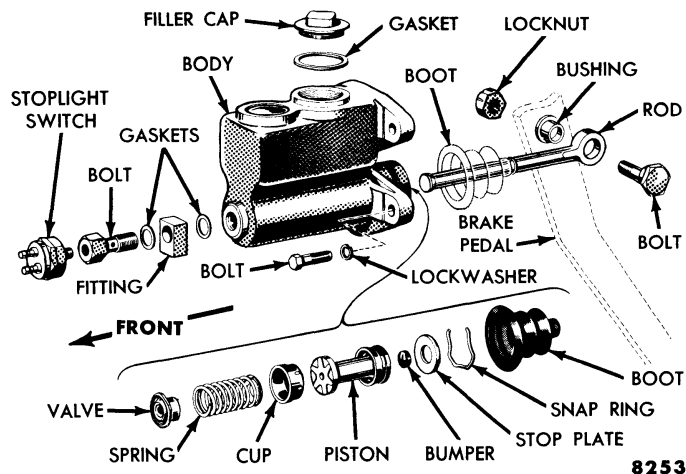

Fig. 7—Brake Master Cylinder—Conventional Cars
Construction details of the master cylinder used in conventional cars are shown in fig. 7. The Thunderbird master cylinder differs only in the design of the body.
(2) **DISSASSEMBLY.** Clean all dirt from the outside of the cylinder assembly, then remove the filler cap and gasket. Remove the rubber boot and the push rod from the cylinder bore. Remove the stop light switch adapter, the brake pipe connector, and the gaskets from the master cylinder. Remove the snap ring, then pull the stop plate, piston assembly, primary cup, piston return spring, check valve, and valve seat out of the cylinder bore (fig. 7).
(3) **ASSEMBLY.** Dip all internal parts of the master cylinder in hydraulic brake fluid. Install the adapter and gaskets on the front end of the master cylinder. Position the valve seat, check valve, piston return spring, primary cup, piston, and stop plate in the cylinder bore (fig. 7). Secure the parts in the bore with the snap ring. Install the master cylinder boot on the push rod, then position the push rod in the cylinder with the boot over the end of the cylinder.